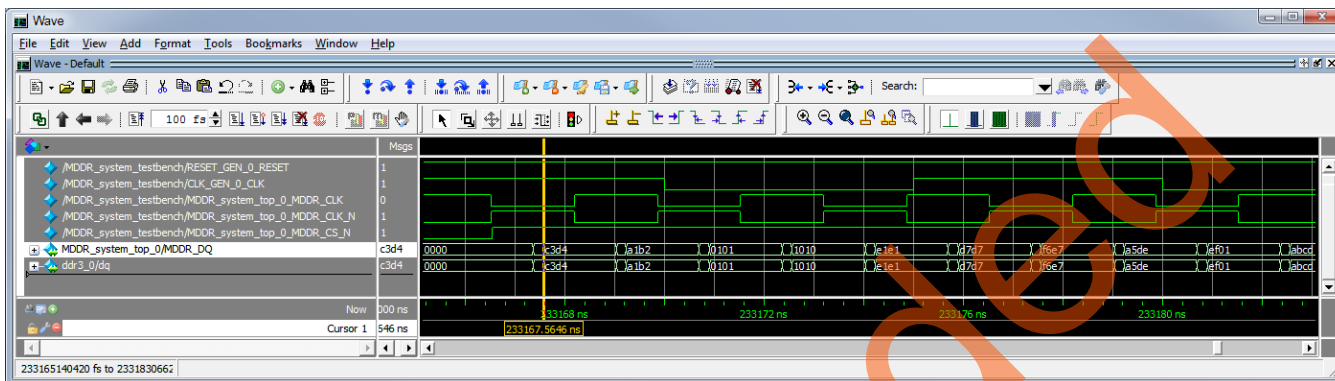

Figure 43. Write/Read Data
4. Place the cursor around 233 ps on the Wave window and click the **Zoom In on the Active Cursor** icon as shown in Figure 42, to zoom in at that location. That shows the time at which the data was written/read-back to/from the DDR3 external modules, as shown in Figure 43.
Figure 43 shows the time at which the data was written/read-back to/from the DDR3 external modules. That concludes this tutorial.